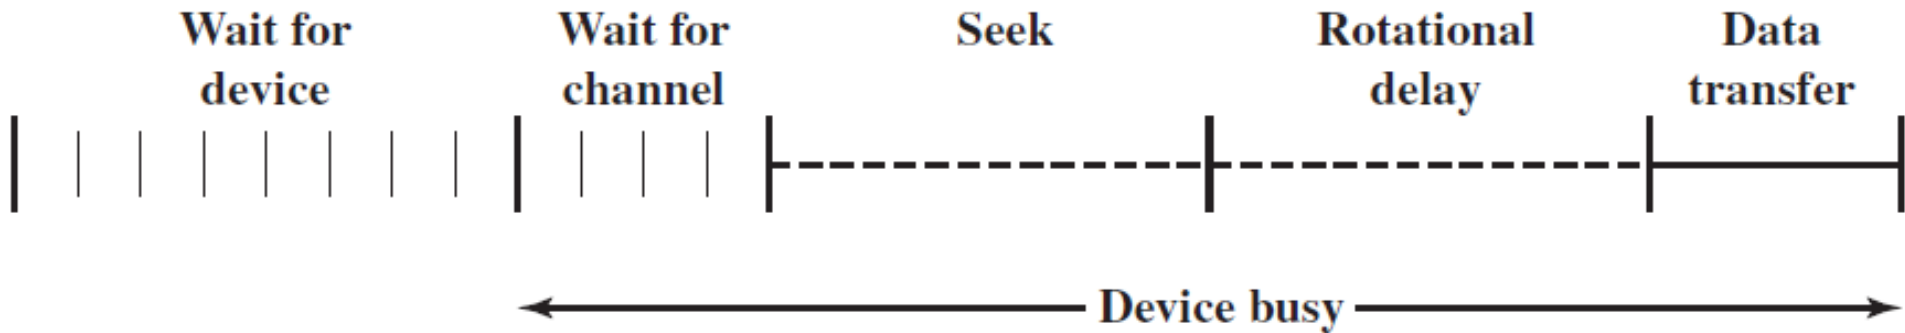

Figure 6.7 Timing of a Disk I/O Transfer
- A general timing diagram of disk I/O transfer is shown in Figure 6.7.